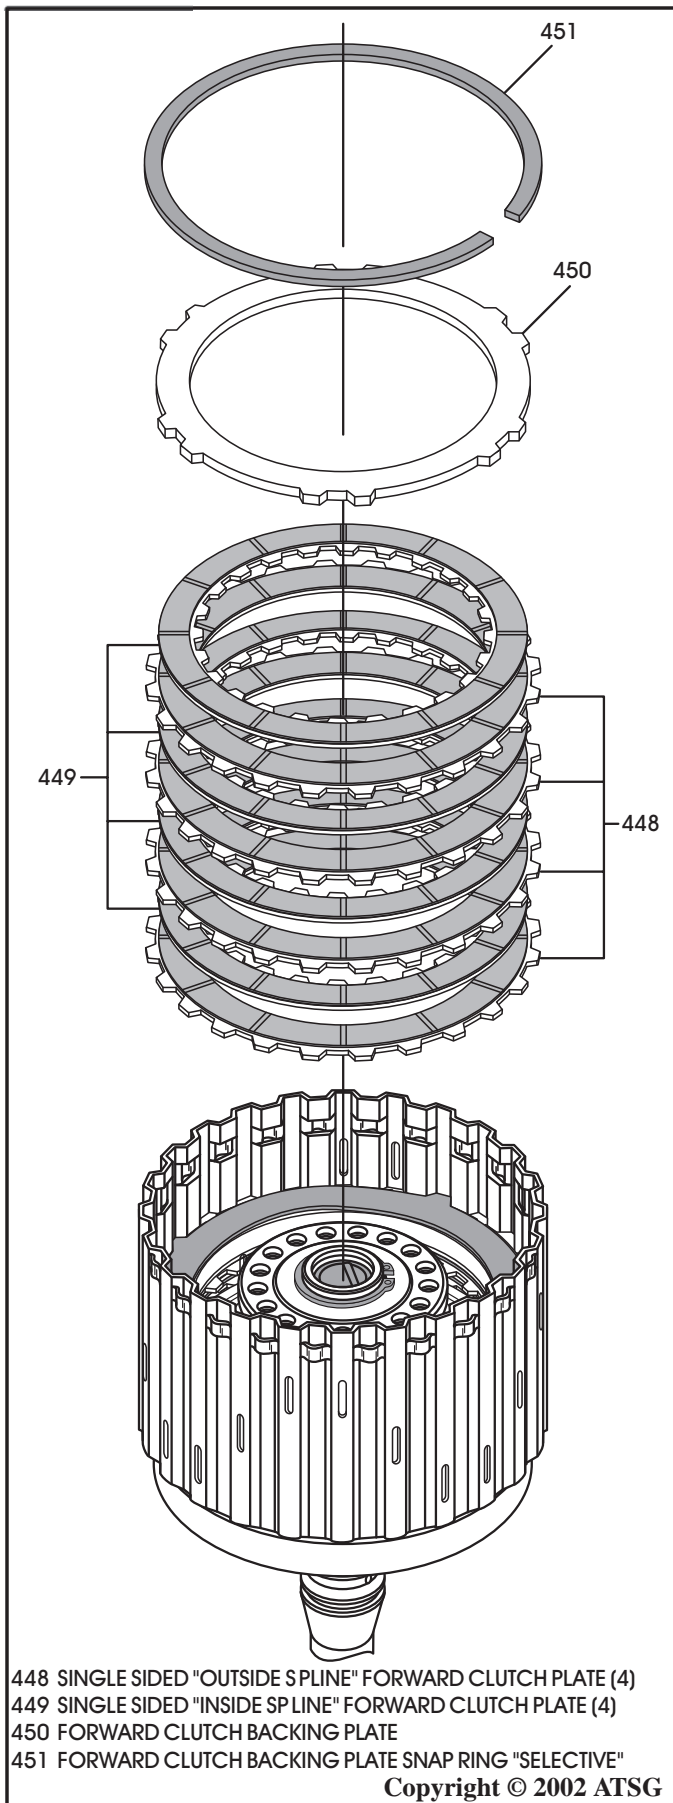

Figure 95
33. Install the forward clutch "single sided" plates beginning with an outside spline plate first and alternating with inside spline plates until you have installed 4 of each, as shown in Figure 95. *Note: Lined side must be facing up, as shown in Figure 95. Clutch plate amounts may vary by model.*
34. Install forward clutch backing plate on top of the last inside spline plate (See Figure 95).
35. Install the "Selective" backing plate snap ring as shown in Figure 95, and ensure that the snap ring is fully seated against the top of the snap ring groove in forward clutch housing.